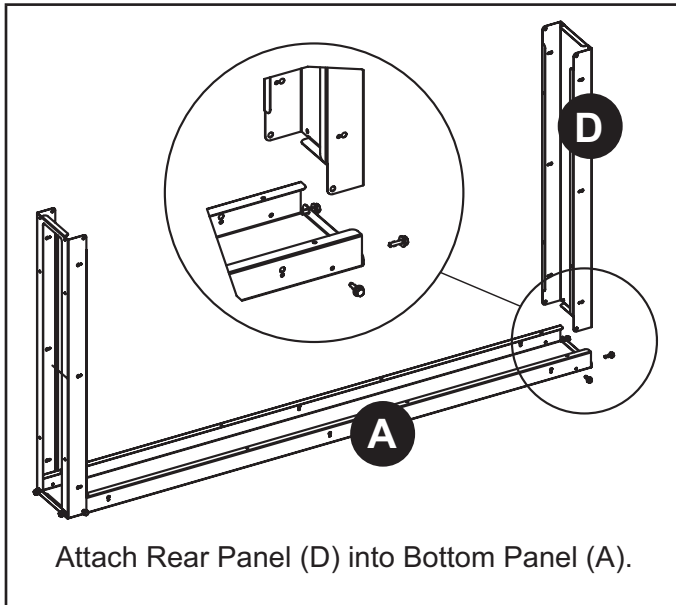

FIGURE 12. Assemble Rear Panel (D) to Bottom Panel (A)
- 2 - Align and attach rear panel D into Top / Bottom Panel A (see figure 12).